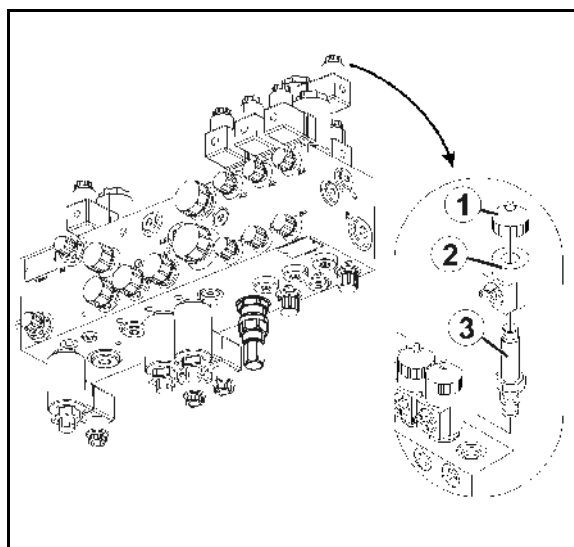

Fig. 95
1. Unscrew the magnetic cap (Fig. 95/1)
2. Remove the solenoid (Fig. 95/2)
3. Unscrew the valve rod (Fig. 95/3) with valve seats and clean with compressed air or hydraulic fluid.